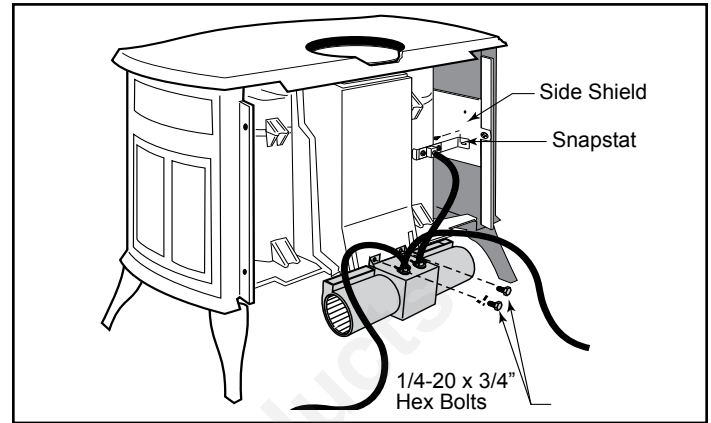

Figure 3 - Attach fan assembly.
3. Secure the fan assembly to the bottom plate with two (2) 1/4 - 20 x 3/4" hex head screws and one (1) 1/4" star washer. (Figure 3)